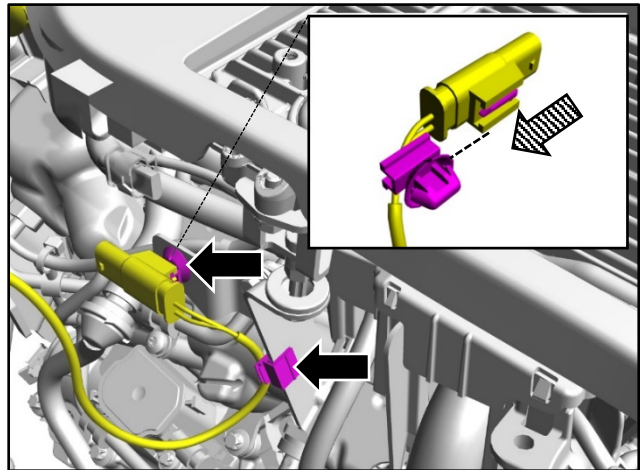

Figure 28
17. Install the two clips that attach the wiring harness to the engine (refer to Figure 28).